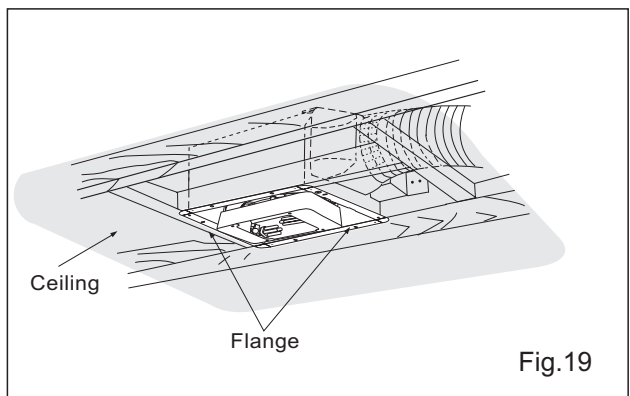

Fig. 19
8. Finish ceiling work. Ceiling hole should be aligned with edge of the flange. (Fig. 19)